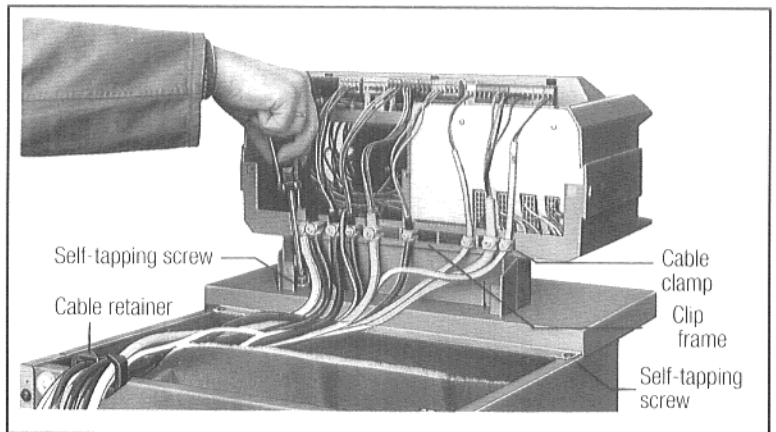

Fig. 6 – Procedure
4. Attach the Control Panel base to the front boiler hood by running self-tapping screws through the left and right sides of the cable channel from the inside (Fig. 6).
6. Once the cables have been fed through the cable clamp, fit the clamp into the clip frame and secure it with a screw (Fig. 6).